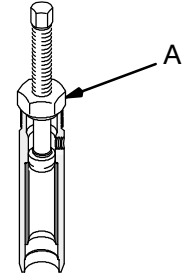

Fig. 10 _____ 02562
Fig. 10. **For pumps 220872, 222580, 222584, and 237488.** Screw sleeve removal tool's large nut (A) into top of cylinder. Screw down rod to push sleeve out. Remove tool. Remove old o-ring and discard. Clean and inspect parts. Go to Fig. 12.